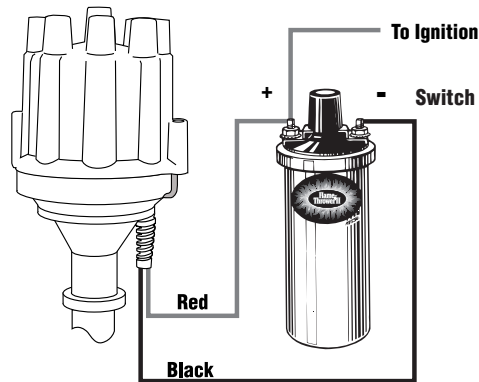

Figure 3
- Attach the black Ignitor III wire to the negative coil terminal. (See Figure 3)
- Attach the red Ignitor III wire to the positive coil terminal. (See Figure 3)